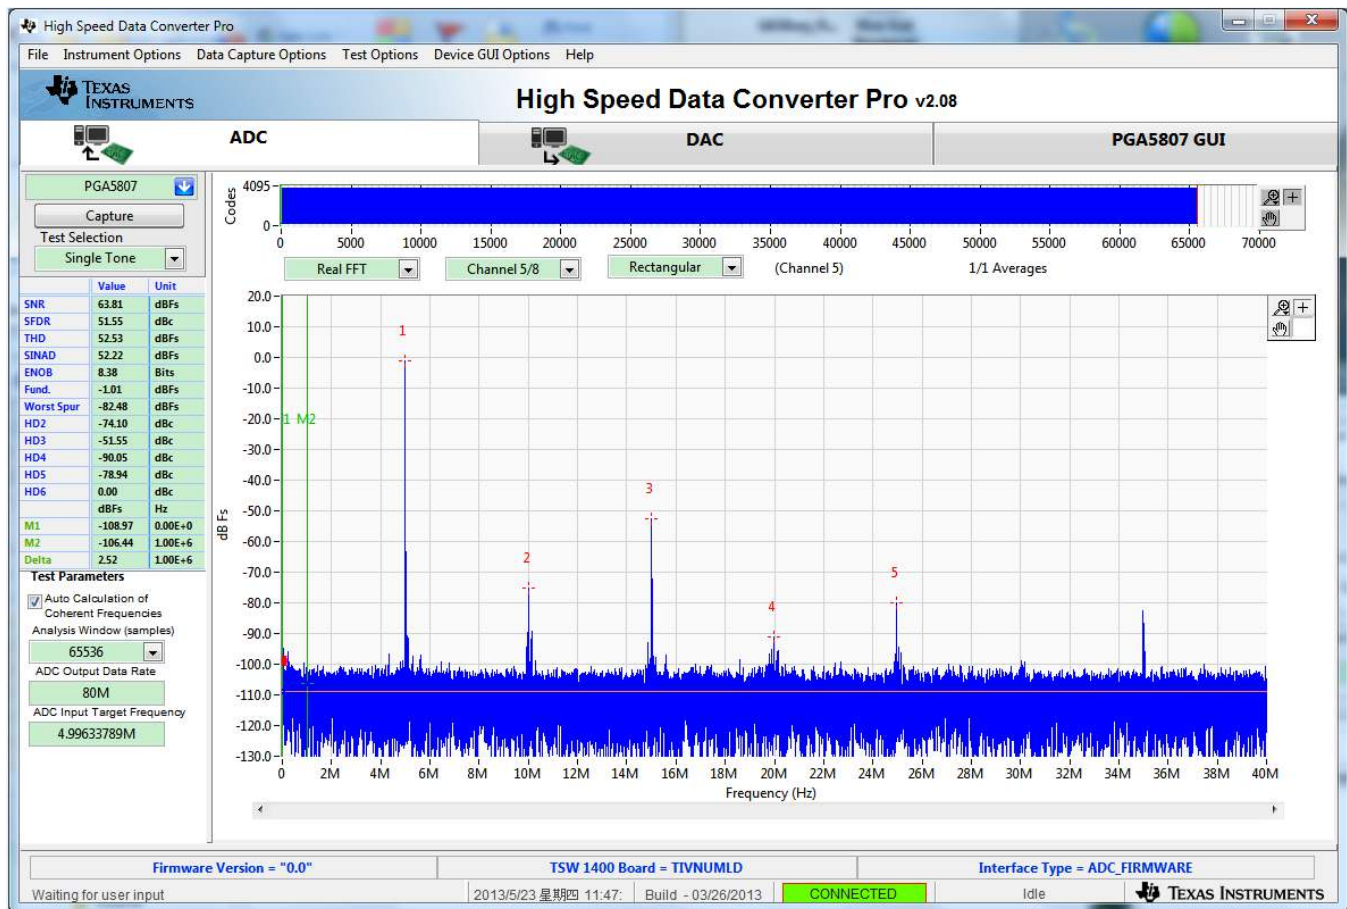

Figure 45. PGA5807+ADS5296 SNR, THD, Gain Test Capture 1
- Click on the **ADC** tab and press **Capture** to see result similar to Figure 45. Take note of the *Fund.* value in the table to the left. In a similar manner to that described in Section 4.3, the input signal amplitude to the PGA5807 should be adjusted and a re-capture done iteratively until the *Fund.* value is approximately  $-1.0$  dBFs. As  $-1.0$  dBFs is the ADC level at which datasheet specifications are set, the *SNR* and *THD* of the signal chain can be taken from the table to left at this value of *Fund.*